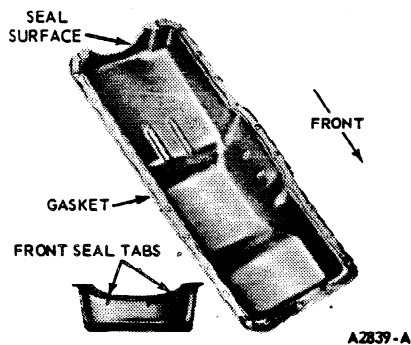

FIG. 40 Oil Pan Gaskets and Front Seal Installed
7. Apply oil-resistant sealer to the cavities between the rear main bearing cap and cylinder block (Figure 40). Install a new oil pan rear seal in the rear main bearing cap and apply a bead of oil-resistant sealer to the tapered ends of the seal.
8. Install new side gaskets on the oil pan with oil-resistant sealer (Figure 40). Position a new cylinder front cover seal on the oil pan.